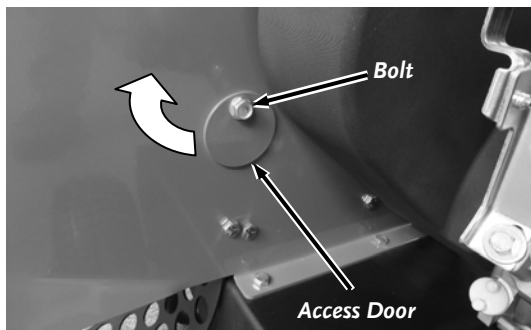

Figure 28
3. Loosen the Bolt on the Access Plate using a 1/2" Wrench, rotate the Plate out of the way and then tighten the Bolt to hold it in place (Figure 28).